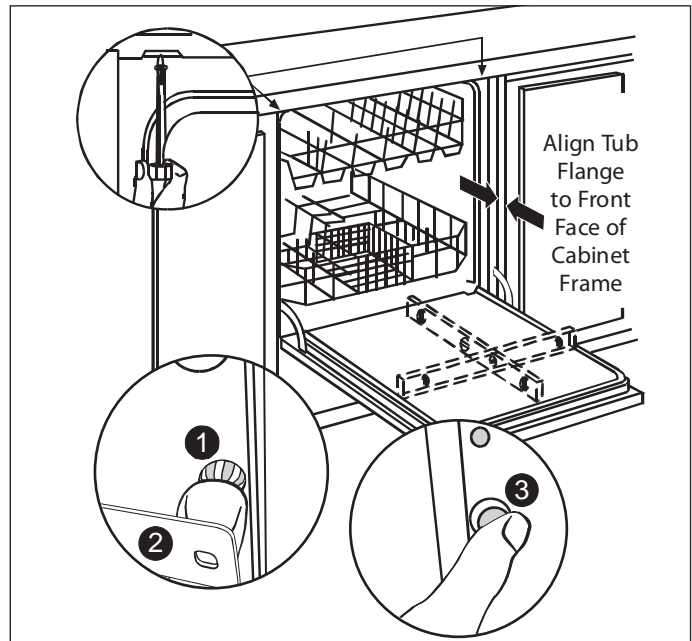

Figure 2-16.
1. Position the dishwasher so that the tub flange aligns with the front face of the cabinet frame. (See Figure 2-16)
2. Fasten the dishwasher to the underside and side face of the countertop with the 2 Phillips screws provided. (See Figure 2-16)